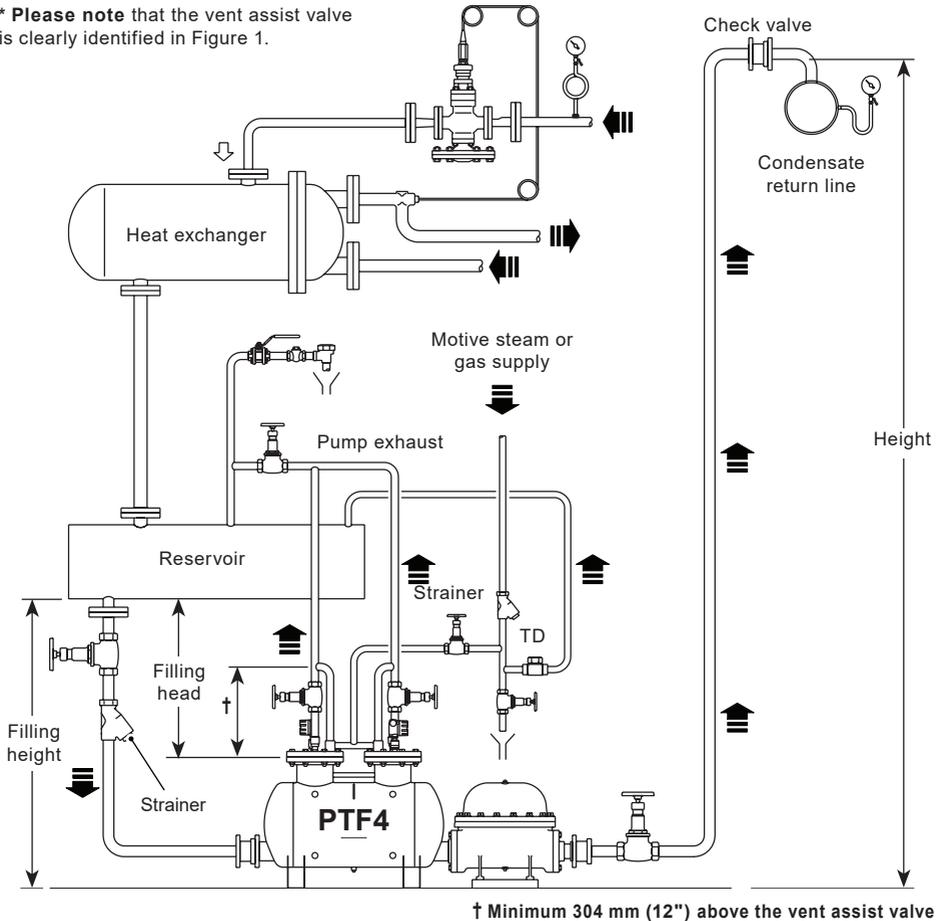

Fig. 3 Closed loop system with trap
3.7 Installation - Closed loop systems (Figure 3)
- 3.7.1 Install the pump physically below the equipment being drained with the exhaust connection vertically upwards. The pump should be installed with the recommended filling head (the vertical distance between the top of the pump and the bottom of the reservoir) as shown in Figure 3. For other filling head variations, see the Capacity Table on TI-P135-13.
- 3.7.2 To prevent equipment flooding during the pump discharge stroke, a reservoir pipe should be installed in a horizontal plane ahead of the pump as shown in Figure 3. For the correct reservoir sizing, refer to Table 2 'Inlet reservoir piping'. All inlet line fittings must be fully ported. If desired, overflow piping can be installed using a properly sized float and thermostatic trap. The trap inlet should be located at the maximum allowable water level, at or near the top of the reservoir, and it should discharge to a suitable drain.
- 3.7.7** If at any time the backpressure against the pump is less than the pressure in the equipment being drained, a properly sized float and thermostatic trap must be installed between the pump and discharge check valve as shown in Figure 3.